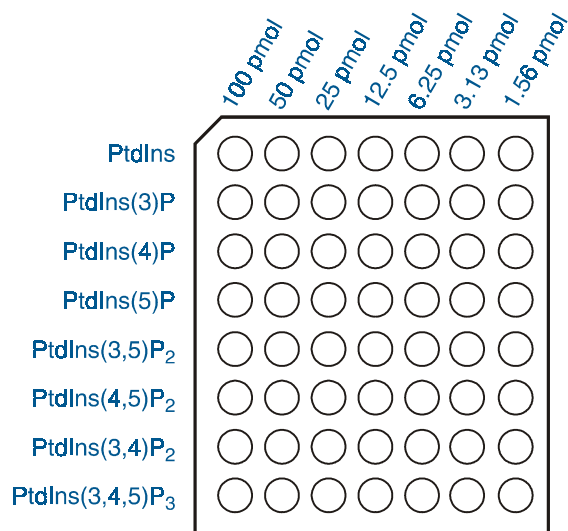

Figure 2. Layout of immobilized phosphoinositides on PIP Array membranes. The dimensions of PIP Array membranes are 4 cm × 4 cm.
- PIP Array membranes are provided in sets of either two (P23748) or five (P23749) arrays. Each 4 cm × 4 cm array contains eight different phospholipids arrayed in amounts from 100 to 1.6 pmol (Figure 2).